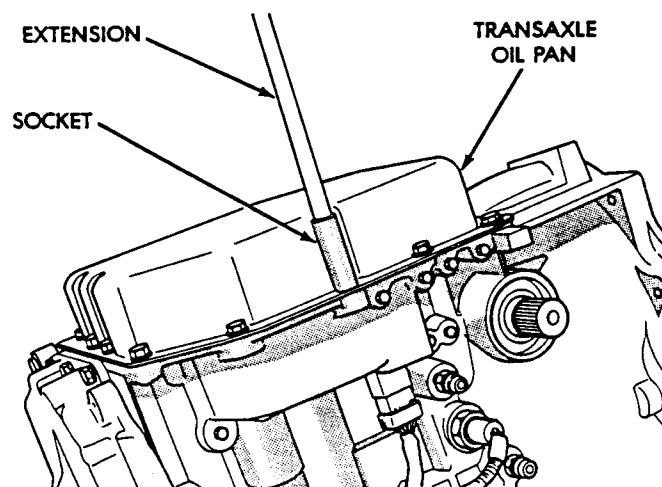

Fig. 1 Remove Transaxle Oil Pan Bolts
(1) Disconnect the MVLPS wiring connector. The solenoid wiring connector can remain attached to the case.
(2) Disconnect the shift cable from the shift lever (at the transaxle).
(3) Move the shift lever clockwise as far as it will go. This should be one position past the "L" position. Then remove the shift lever.
(4) Remove transaxle pan bolts (Fig. 1).